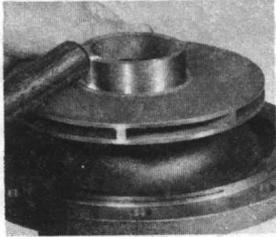

FIGURE 2
3. Place bracket in vertical position, impeller up and loosen screw at center of impeller two turns. (7/16 Hex Head) *This screw has a left-hand thread.* Tap impeller at its outside diameter with handle of hammer to free tapered fit between shaft and impeller and completely remove screw, washer and impeller. (see Figure 2)